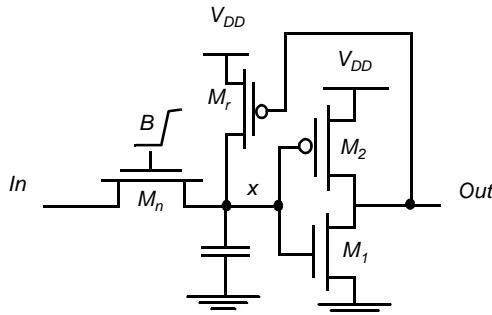

Figure 6.11 Level restorer.
17. [C, None, 4.2] Consider the circuit of Figure 6.11. Let $C_x = 50 \text{ fF}$, M_r has $W/L = 0.375/0.375$, M_n has $W/L_{eff} = 0.375/0.25$. Assume the output inverter doesn't switch until its input equals $V_{DD}/2$.